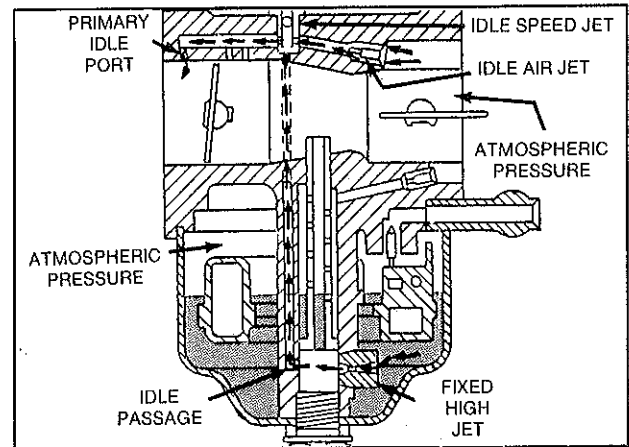

Fig. 4 - Idle System Operation
1. As the intake port is opened by the piston, a partial vacuum forms between the throttle plate and the intake port. Atmospheric pressure in the carburetor bowl pushes fuel through the fixed high speed jet, Fig. 4, and up the idle passage. Atmospheric pressure also pushes air into the throat of the carburetor.
2. Atmospheric pressure also enters through the idle air jet, Fig. 4.
4. This air/fuel mixture then is pushed to the primary idle port and out into the carburetor and mixes with the air coming in through the throat of the carburetor and into the intake port of the engine, Fig. 4.